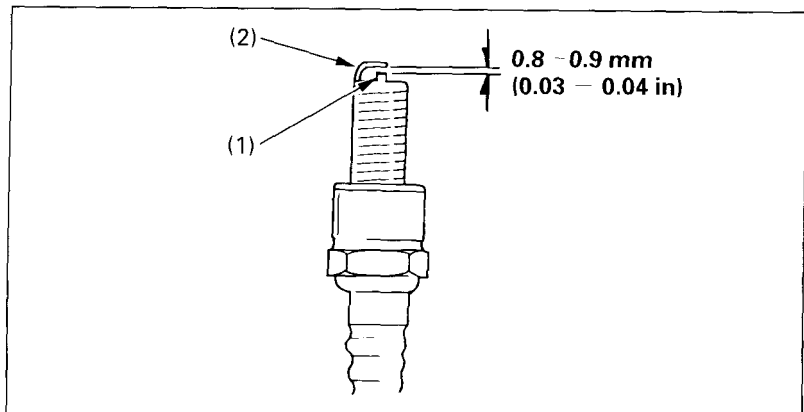

Fig. 4-15 (1) Center electrode (2) Side electrode
4. Visually inspect the spark plug electrodes for wear. The center electrode (Fig. 4-15) should have a flat tip and sharp edges, and the side electrode (2) should not be eroded. If the electrodes and insulator tip appear unusually fouled or burned, we suggest that you contact your authorized Honda dealer.